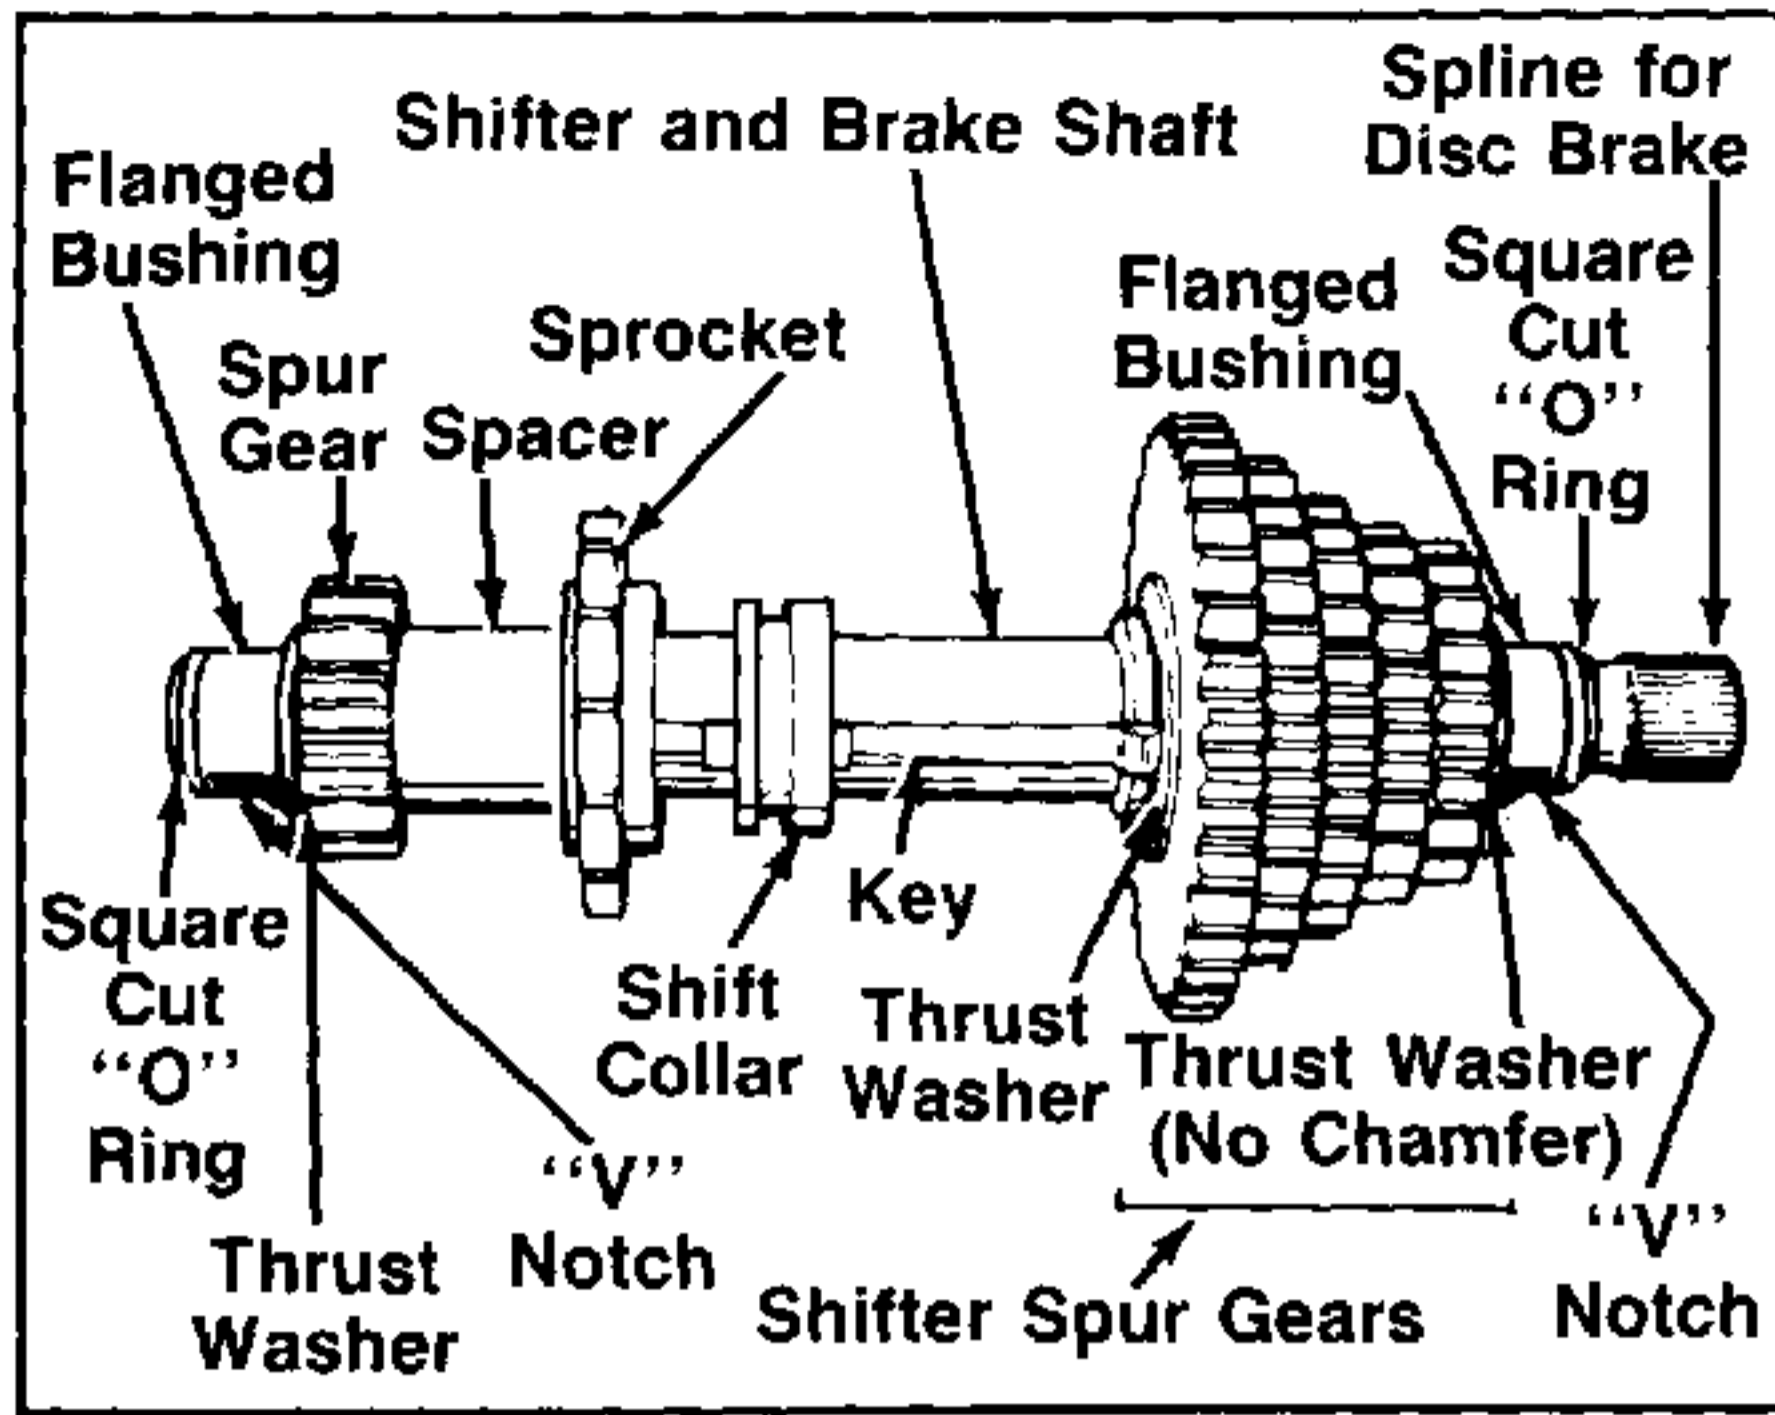

FIGURE 19.
8. Remove the square cut seals (2) and flanged bushings (2), thrust washers (2) on shaft ends, spur gear, spacer, sprocket, shift collar with keys, thrust washers and shifter spur gears. See figure 19.